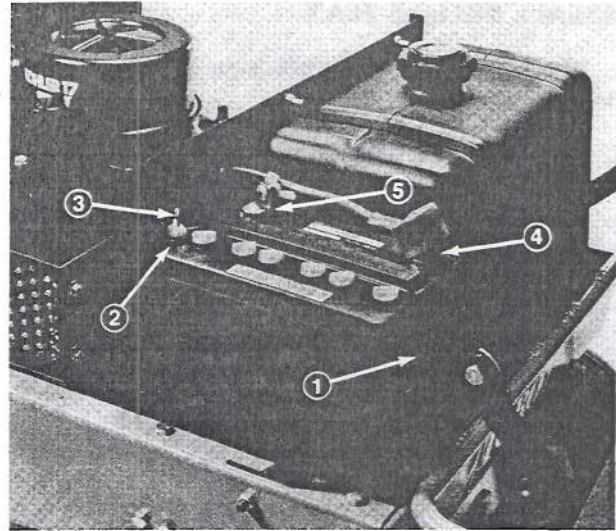

Figure 6
1. Mount battery on battery support with terminal posts toward gas tank (Fig. 6).
2. Secure battery with clamp, support rod and wing nut (Fig. 6).
3. Install the positive cable (rubber boot over end) to the positive (+) terminal and the negative cable (black) to the negative (—) terminal of the battery and secure with carriage bolts and wing nuts. Slide the rubber boot over the positive terminal to prevent possible short-out from occurring (Fig. 6).